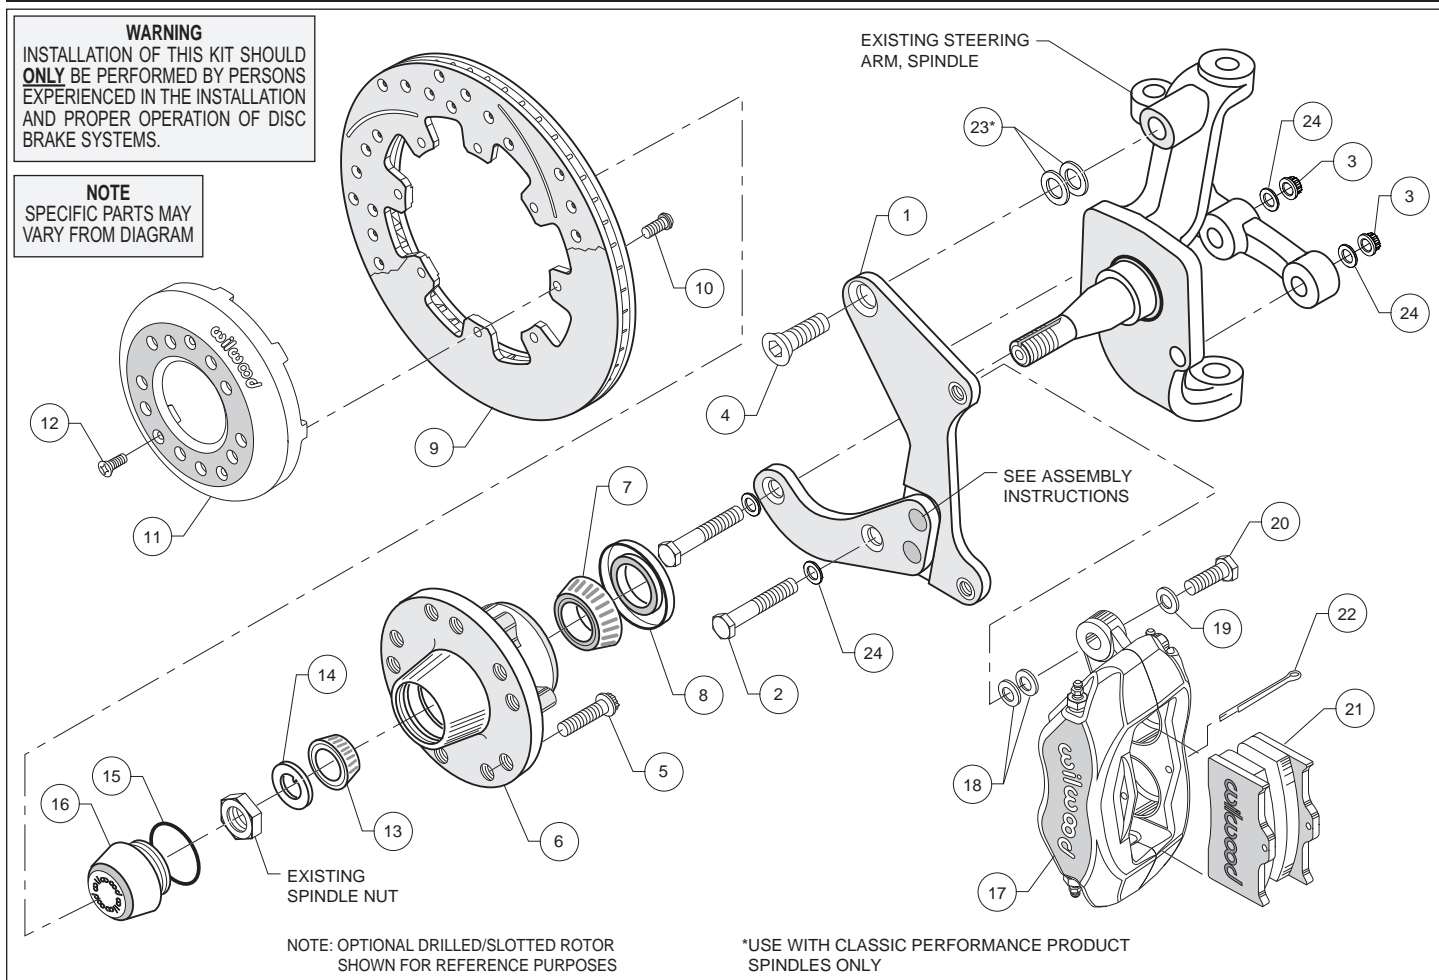
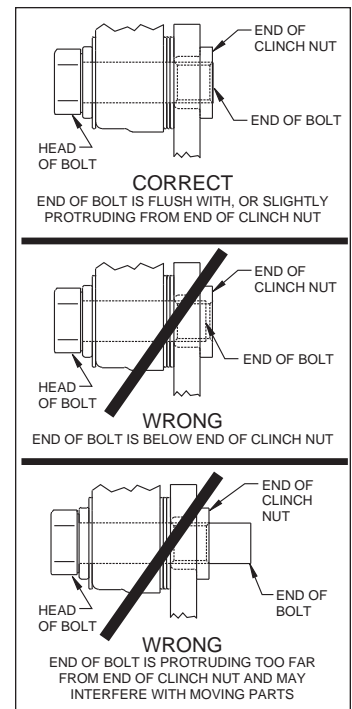

Figure 1. Typical Installation Configuration
Figure 3. Clinch Nut Engagement Diagram
Assembly Instructions (numbers in parenthesis refer to the parts list and Figure 1 on the preceding pages): **CAUTION:** All mounting bolts must fully engage clinch nuts. Be sure to check that all bolts are either flush or protruding through flanged side of clinch nut after shimming, Figure 3.
•The caliper mounting bracket (1) has been assembled at the factory for alignment purposes. Loosen the two bolts that secure the brackets together so that the bolts are hand tight only, this will enable the bracket assembly to be adjusted to accommodate various spindle tolerances during assembly. Orient the bracket as shown in Photo 1 and Figure 1, and install to lower mount holes using bolts (2), washers (24), and lock nuts (3), Figure 1 and Photo 1. Do not tighten yet.
•**For Classic Performance Products spindles only:** Initially use two .024" thick shims (23) on upper mount bolt between bracket and spindle, Figure 1. While test fitting bracket assembly per the instructions below, check that the bracket is parallel to the rotor. If not, add or subtract shims (23) between the bracket and spindle.
•Install bolt (4) in the upper bracket hole. Temporarily tighten all of the bracket mounting bolts. Ensure that the flanged heads of the clinch nuts in the bracket are facing outboard, Photo 1. **NOTE:** The bracket must fit squarely against the mounting points on the spindle. Inspect for interference from casting irregularities, machining ridges, burrs, etc. Torque lower lock nuts to 47 ft-lb. Remove the upper bolt, apply red *Loctite*® 271 to threads, and torque to 140 ft-lb. Remove one at a time the bolts that secure the bracket assembly to each other, apply red *Loctite*® 271 to the threads and torque to 40 ft-lb.
•Install wheel studs (5) into the hub (6), Photo 2 and Figure 1. Torque to 77 ft-lb. **NOTE:** There are two five lug patterns in the hub (5 x 4.50 and 5 x 4.75). Ensure the correct hub stud pattern is being used to fit the wheel application.
•Pack the large inner bearing cone (7) with high temperature disc brake bearing grease (available from your local auto parts store) and install into the backside of the hub (6), Photo 3.
•Install the grease seal (8) by pressing into the backside of the hub (6), flush with the end of the hub, Photo 3.
- Orient the rotor (9) and the hat (11) as shown in Figure 1. Attach the rotor to the hat using bolts (10). Using an alternating sequence, apply red *Loctite*® 271 to the threads, and torque to 25 ft-lb.
- Slide the rotor/hat assembly over the hub (6) taking care to align the small countersunk holes in the hat (11) with the small threaded holes in the hub. Install three flat head screws (12) through the small holes in the hat and torque to 85 in-lb.
- NOTE:** Please reference the caution statement at the beginning of the assembly instructions. Mount the caliper (17) onto the caliper bracket (1) using bolts (20) and washers (19) as shown in Figure 1. Initially place two .035" thick shims (18) on each bolt between the caliper and bracket, Photo 6. Temporarily tighten the mounting bolts and view the rotor (9) through the top of the caliper. The rotor should be centered in the caliper, Photo 7. If not, adjust by adding or subtracting shims between the bracket and the caliper. Always use the same amount of shims on each of the two mounting bolts.
- NOTE:** The end of each bolt must be flush with or slightly protruding from the head of the clinch nut, as shown in Figure 3. If necessary place spare shims between washer (19) and caliper mounting ear to achieve the proper clinch nut engagement. Once the caliper alignment and clinch nut engagement are correct, remove the bolts one at a time, apply red *Loctite*® 271 to bolt threads, and torque to 40 ft-lb.
- Install the disc brake pads (21) into the caliper, with the friction material facing the rotor (9), and secure in place using cotter pin (22), Photo 8.